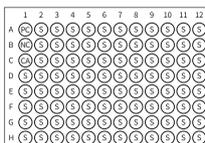

Figure 5. Suggested plate layout
- Add 100  $\mu$ l of diluted positive controls, negative controls, and non-diluted ready-to-use-calibrators to wells, respectively. Seal plate with the adhesive film provided and lightly tap the frame to ensure proper mixing. Incubate for 1 hour at 37°C. Adhesive film improperly used can cause sample cross-contamination (droplets can adhere to the inner surface). Evaporation can occur due to improper sealing. See Figure 5 below for examples of plate layout: Use the samples prepared in 5.1 Preparation Step